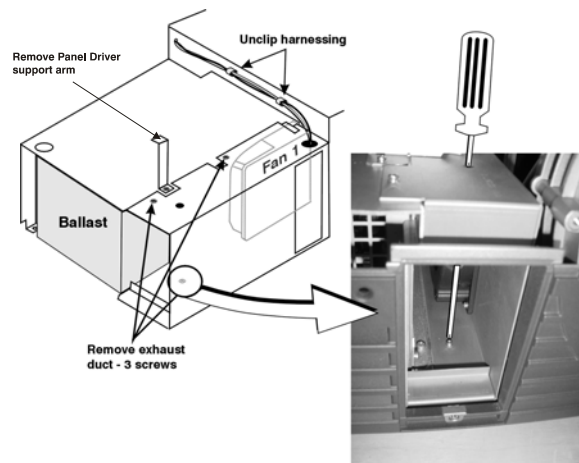

Figure 24. Accessing the Optical Intake Fan
7. Remove the TCPD/HDPD support arm that is secured on the ballast cover. (Figure 24.)
8. Remove the intake duct by removing the two (2) top screws on the duct and the single screw located near the fan, which is accessible through the small opening at the top. (Figure 24.)